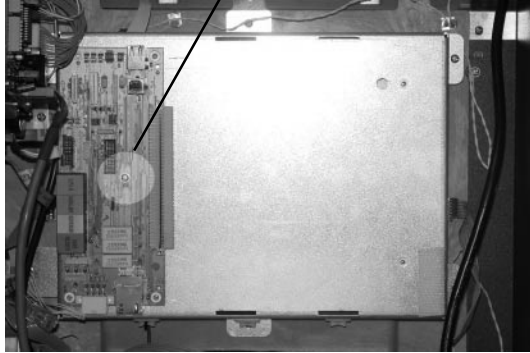

Figure 3-18. Removing the docking assembly.
3. Refer to Figure 3-18. Remove the single phillips screw that secures the dock assembly to the display assembly.